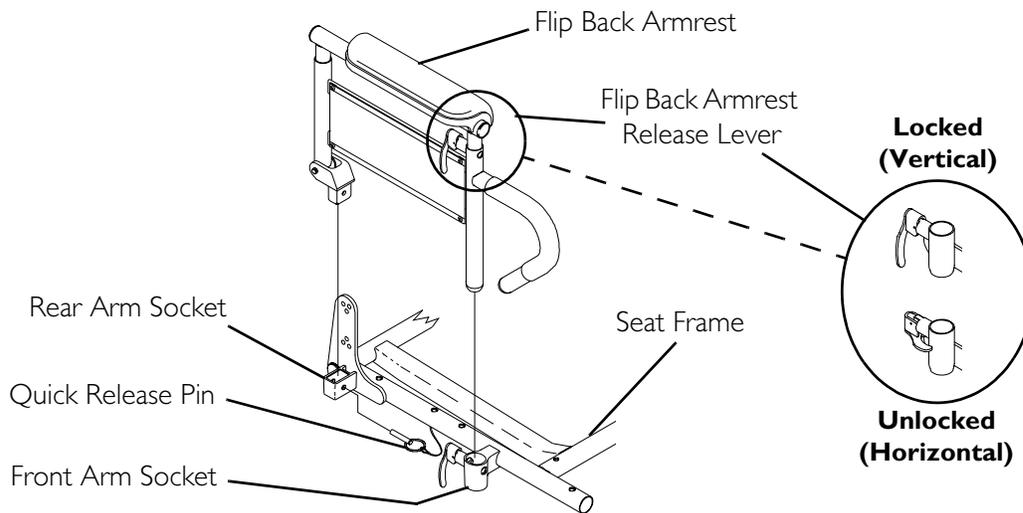

FIGURE 6.1 Installing/Removing Flip Back Armrests
NOTE: For this procedure, refer to FIGURE 6.1 on page 47.
3. Lock flip back armrest by pressing flip back armrest release lever into the locked position (FIGURE 6.1).
1. Unlock flip back armrest by pulling flip back armrest release lever into the unlocked position (FIGURE 6.1).